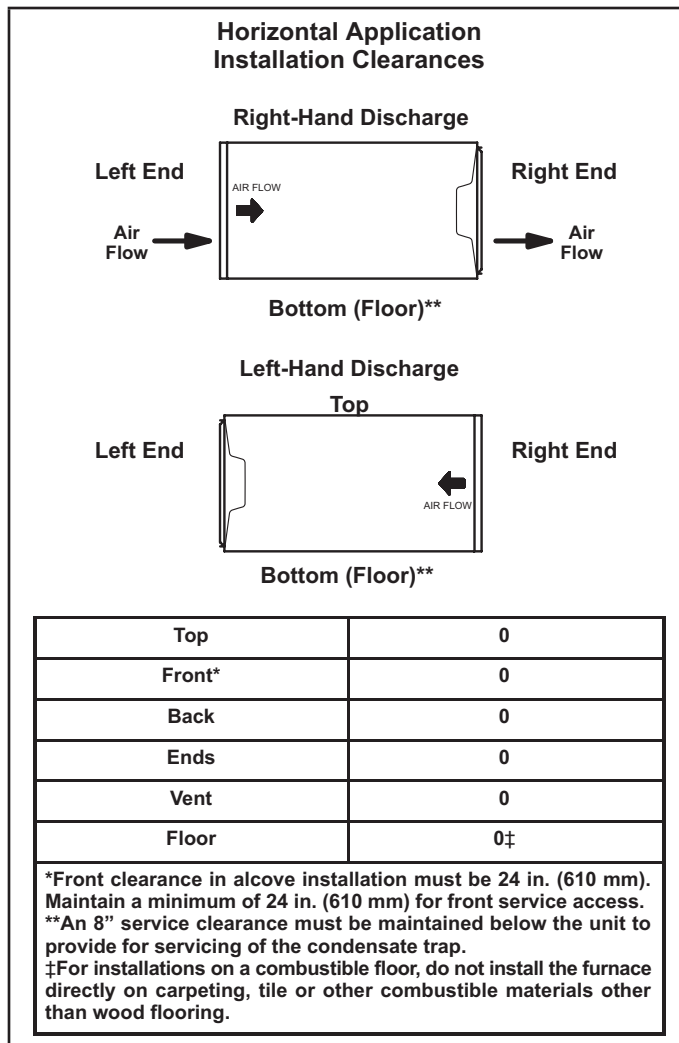

FIGURE 17
The EL297UHEK furnace can be installed in horizontal applications with either right- or left-hand air discharge. Refer to FIGURE 17 for clearances in horizontal applications.
- 1 - Select location for unit keeping in mind service and other necessary clearances. See FIGURE 17.